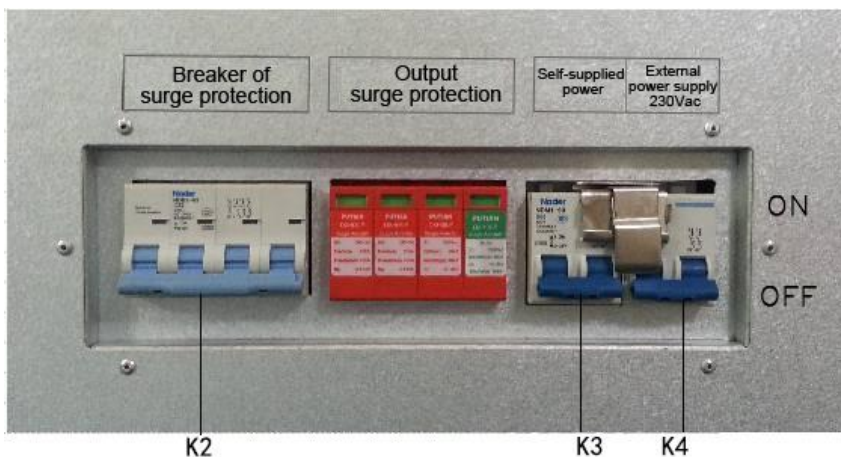

Figure5-2 Step 2
Step 2 Close the surge protection breaker of AC side (K2), as shown in Figure5-2.